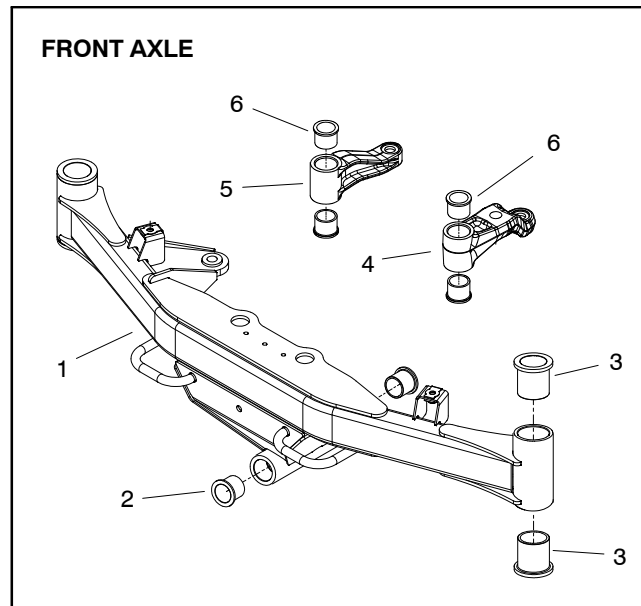
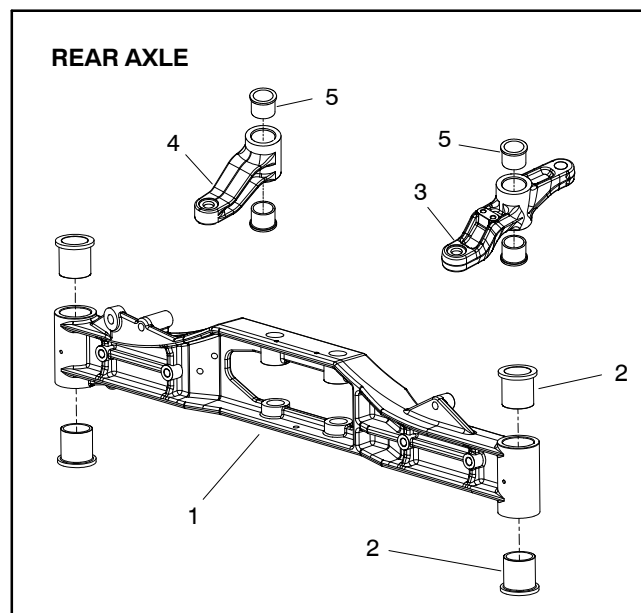

Figure 34
Figure 35
Bushings in the front axle (Fig. 34) or rear axle (Fig. 35) assembly can be replaced using the following procedure.
**NOTE:** Bushings in steering arms (item 6 in Fig. 34 and item 5 in Fig. 35) may require reaming after installation. If reaming tools are not available, replace arm assembly which has bushings installed and properly sized.